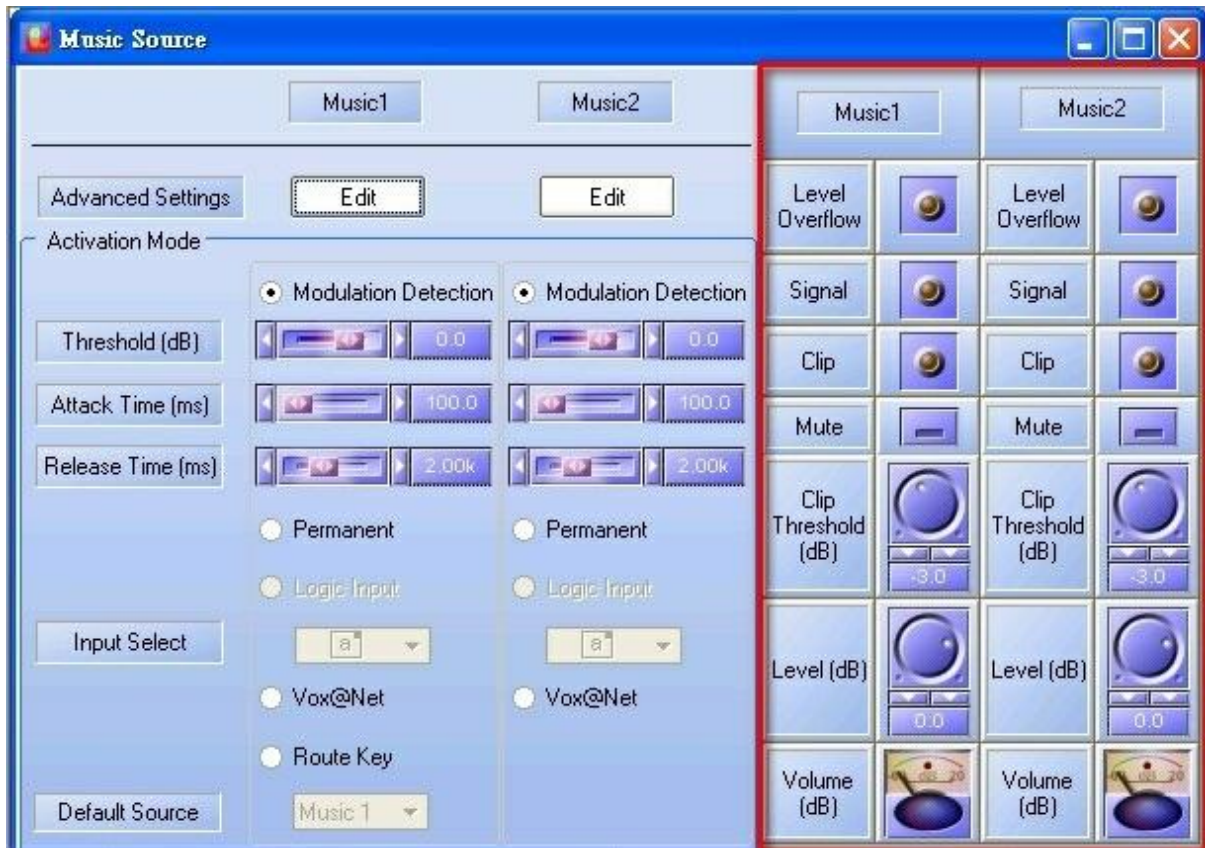

Figure 12: Music Source window
- Double Click on the music source icon to open the "Music Source" window(Figure 12). On the figure, the part that is red framed is for the real time control.